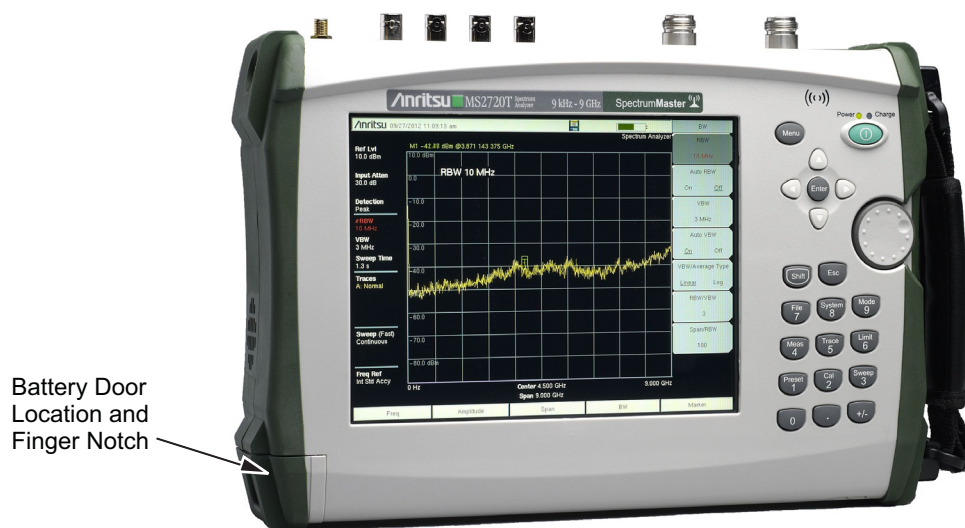

Figure 4-1. Battery Access Door Location and Finger Notch
1. Locate the battery access door illustrated in Figure 4-1.